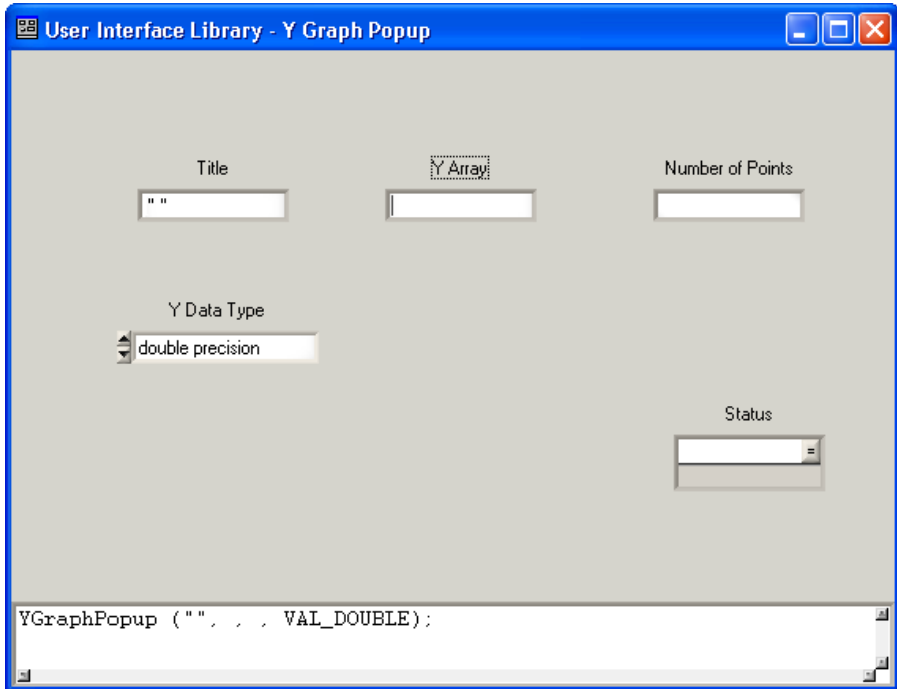

Figure 3-3. Y Graph Popup Function Panel
5. In the Library Tree, expand **User Interface Library»Pop-up Panels»Graph Popups»YGraphPopup** to open the window shown in Figure 3-3.